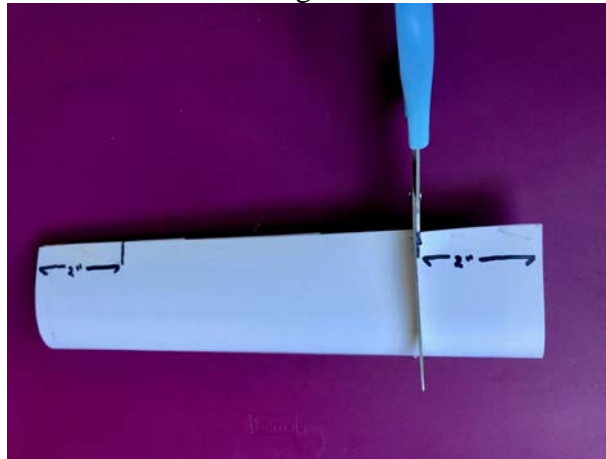

Figure 3. Make a 1/2-inch long cut about 2 inches from the end
4. Make a 1/2-inch (1.3-cm) cut into the taped edge of the wing at about 2 inches (5 cm) in, on both ends, to form ailerons. See Figure 3.